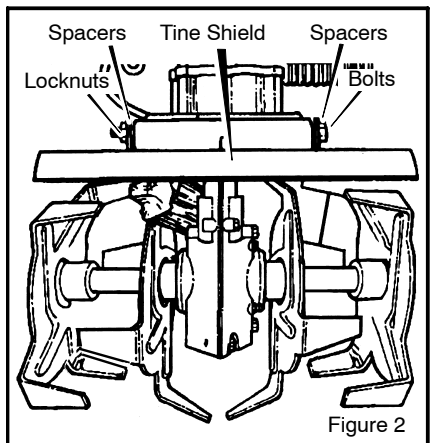

Figure 2
2. Remove the **locknuts**, **spacers**, and **screws** from the **tine shield** (see Figure 2).